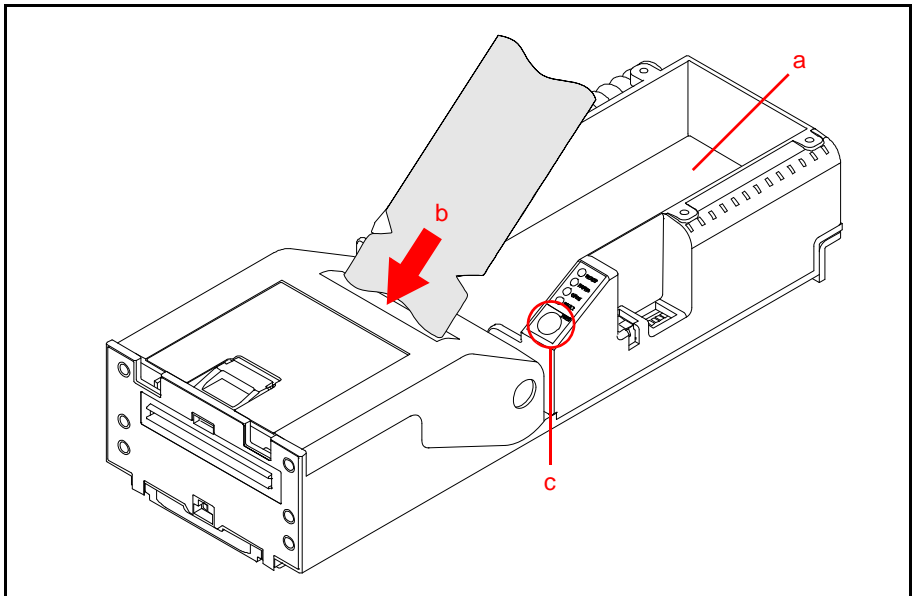

Figure 8 Feed Cleaning Card into Ticket In Slot
3. Remove the Ticket Stock from the Paper Tray (Figure 8 a).
5. Insert the Cleaning Card into the Ticket In Slot (Figure 8 b). It will automatically load in the proper position.
6. Press and hold the Feed Button (Figure 8 c) to feed the Cleaning Card through the Printer's Paper Path.